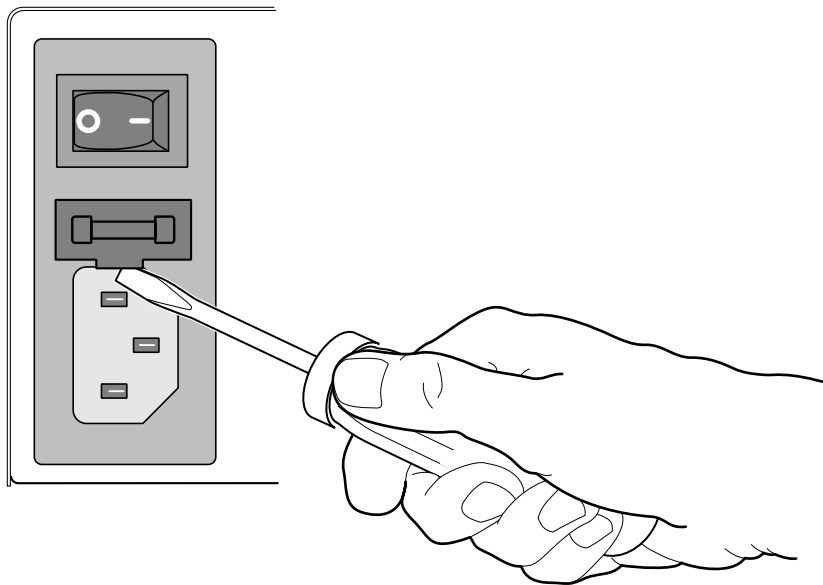

Figure 3-4 Changing Fuses on the IRX
3. **Insert a 3/16" flat-head screwdriver between the fuse door and the chassis and gently pry the door open, as shown in Figure 3-4.**